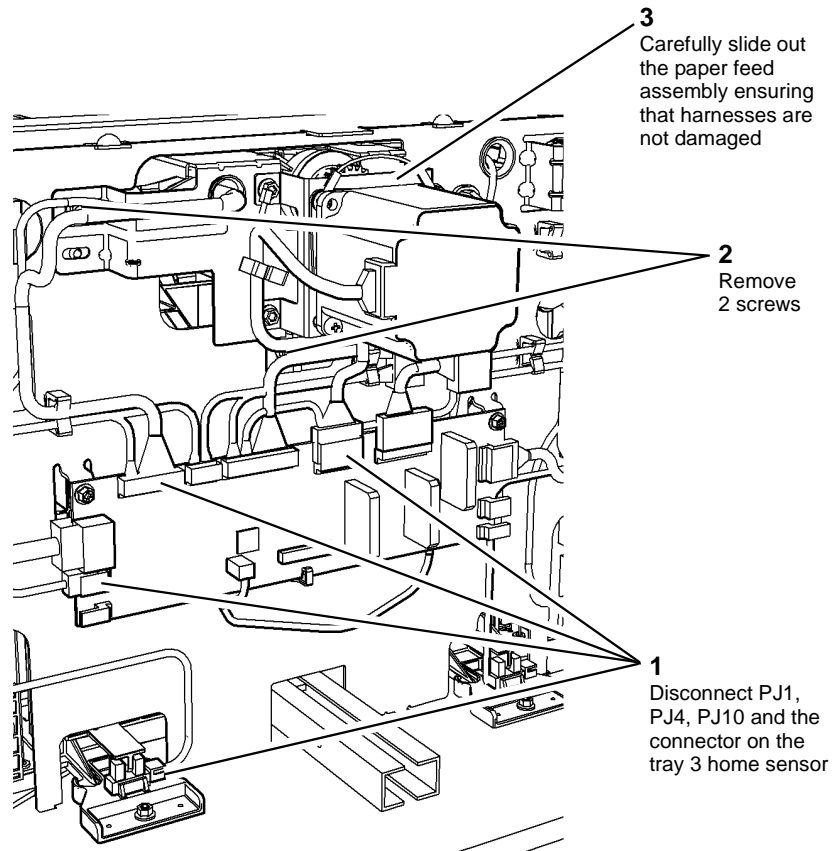

Figure 1 Feed assembly removal
3. Remove the paper feed assembly, Figure 1.